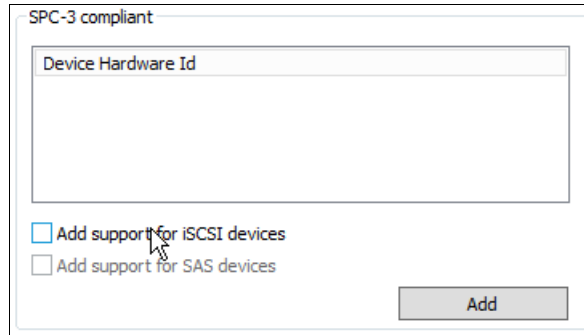

Figure 5-50 Adding support for iSCSI devices in MPIO
8. Go to the Discover Multi-Paths tab and select **Add support for iSCSI devices**, as shown in Figure 5-50.